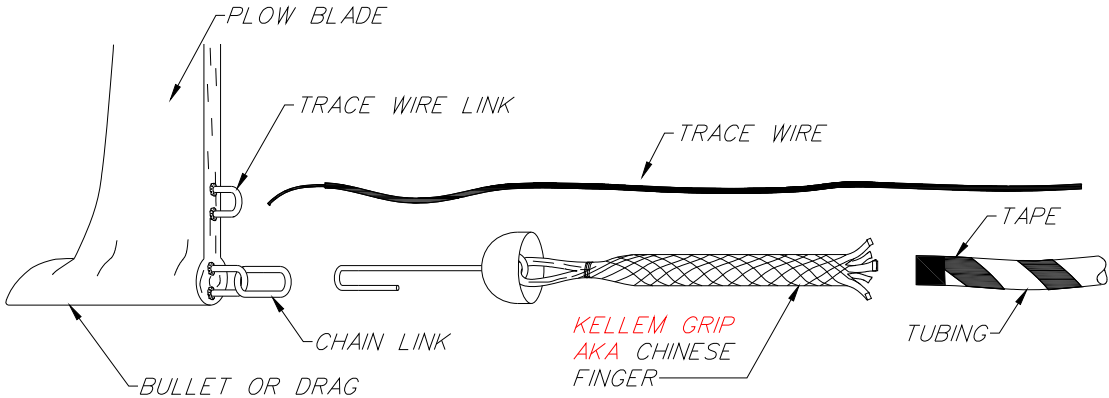

Fig 1
**Fig 1** shows the configuration for connecting the plastic tubing to the back of the plow blade. Wrap tape around the end of the tubing and stab the tubing all the way into the **Chinese Fingerkellem grip**. Pull on the **Chinese Fingerkellem grip** to make sure it grips the tubing tightly. Taping the end of the tubing keeps the **Chinese Fingerkellem grip** from slipping. Hook the Chinese Finger to the lowest hook on the back of the plow blade and the trace wire to the upper link. If there is only one link, tie the trace wire to the trailing end of the Chinese Finger.